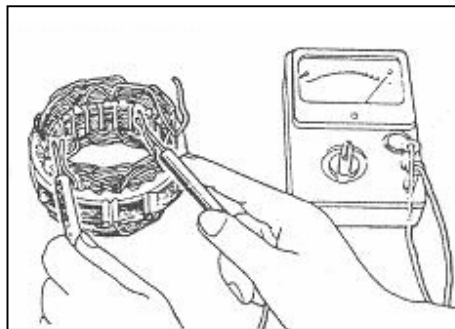

Fig. 9-42
(2) Stator
- ① Make continuity test on stator coil. Check that there is continuity between coil and core. If there is no continuity, replace stator assembly. (see fig.9-42) .